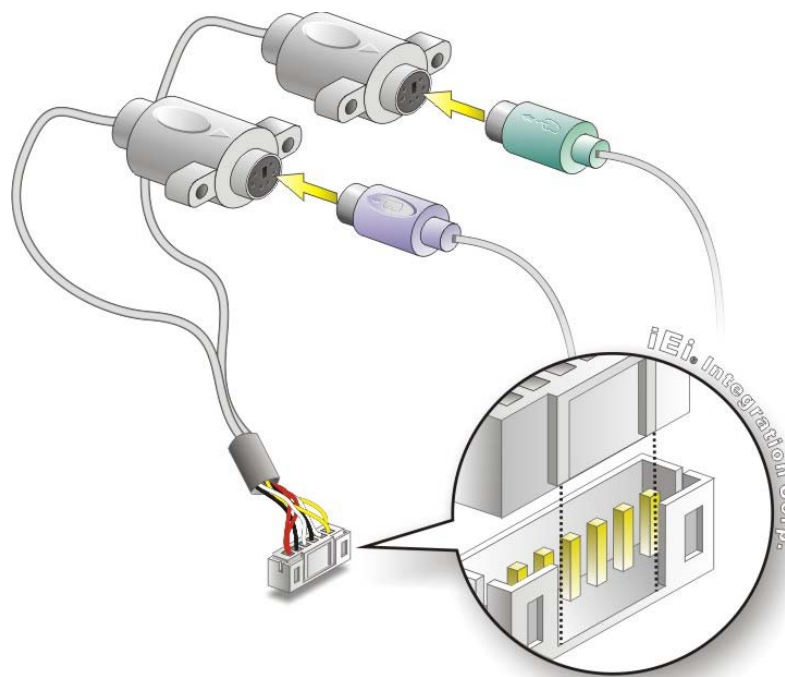

Figure 4-20: Keyboard/mouse Y-cable Connection
- Step 2: Align the connectors.** Correctly align pin 1 on the cable connector with pin 1 on the WAFER-CV-D25501/N26001 keyboard/mouse connector. See **Figure 4-20**.
- Step 3: Insert the cable connectors** Once the cable connector is properly aligned with the keyboard/mouse connector on the WAFER-CV-D25501/N26001, connect the cable connector to the on-board connector. See **Figure 4-20**.